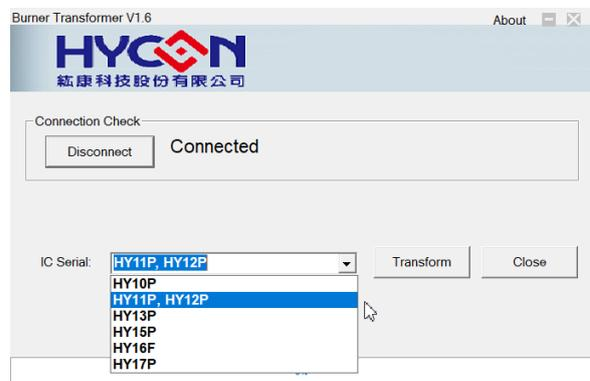

Figure 3-3b
(3) Start update:
- Select the firmware version to be upgraded (as shown in figure 3-3b) in the "IC serial" drop-down menu, and then click "transform" to start the update.